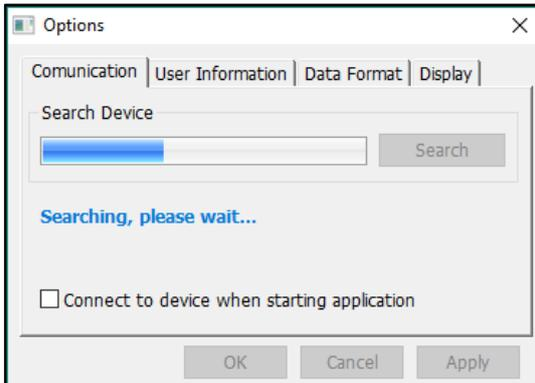

Fig. 2.6-3 Research
- Wait for the automatic search for the tool (Fig.2.6-3)